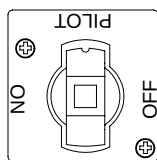
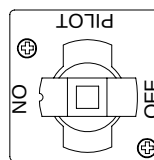

Figure 1
Figure 2
2. Rotate the gas valve knob to the PILOT position (see Figure 1).
4. With the pilot lit, push down and slowly turn the knob to the ON position (see Figure 2 on Page 3-1).
For short-term shut down during the workday, rotate the gas valve knob clockwise to the PILOT position (see Figure 1 on Page 3-1) and put the frypot covers in place (if the fryer is so equipped).
When shutting the fryers down, rotate the gas valve knob to the PILOT position (see Figure 1 on Page 3-1). Depress the gas valve knob and rotate slightly clockwise. Release and continue rotating clockwise to the OFF position (see Figure 2 on Page 3-1). Put the frypot covers in place (if the fryer is so equipped).